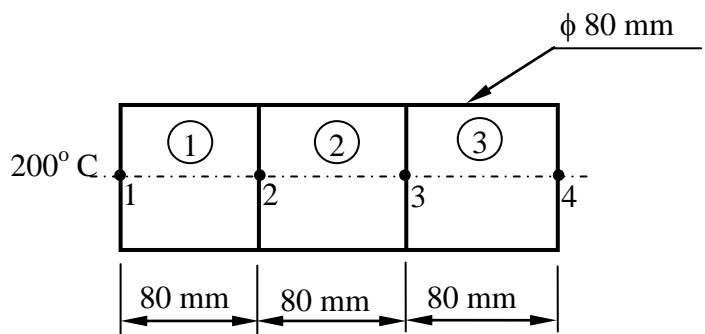

Fig. Q 3A
- 3A. For the discretized 1D aluminium bar shown in Fig. Q 3A the temperature at node 1 is given to be 200°C . The ambient temperature is 30°C . The thermal conductivity (K) of aluminium is $210 \text{ W/m } ^\circ\text{C}$. The convective heat transfer coefficient h is $30 \text{ W/m}^2 \text{ } ^\circ\text{C}$. Consider the heat transfer due to conduction, convection from the peripheral surface and free end convection from node 4.